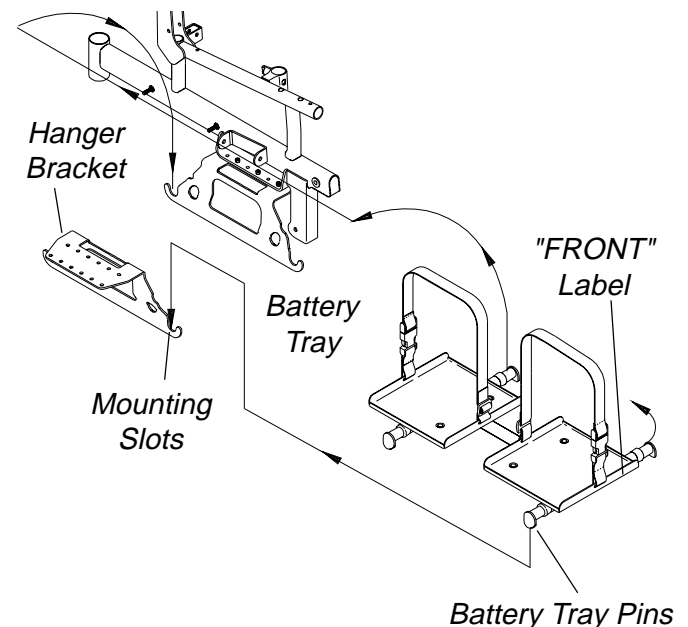

FIGURE 7 - BATTERY TRAY
4. Position retaining straps around each battery box as shown in DETAIL "A" of FIGURE 7 and clip retaining strap together.
## BATTERY TRAY (FIGURE 7)